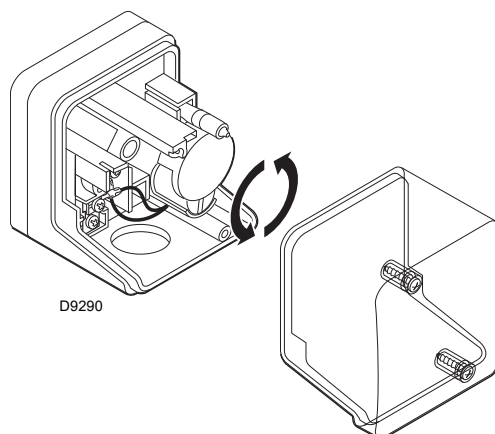

Fig. 47
- Adjust the low gas pressure switch to the start of the scale (Fig. 47, page 36).
Adjust the minimum gas pressure switch (Fig. 47) after having adjusted the burner, the gas valves and the gas train stabiliser. With the burner operating at maximum output: